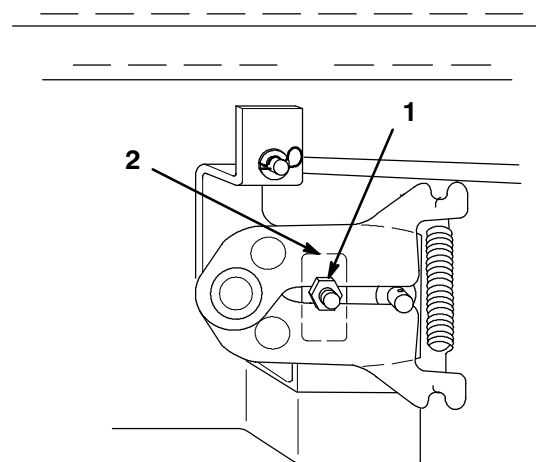

Figure 3
3. Loosen locknut securing adjustment (Fig. 3).
4. Move adjustment stud up or down until creep is minimized (Fig. 3). There may still be some wheel rotation with wheels off the ground.
5. Tighten the locknut (Fig. 3). Move the traction control pedal forward and reverse and allow it to center. Verify that there is no creep with the wheels on the ground.